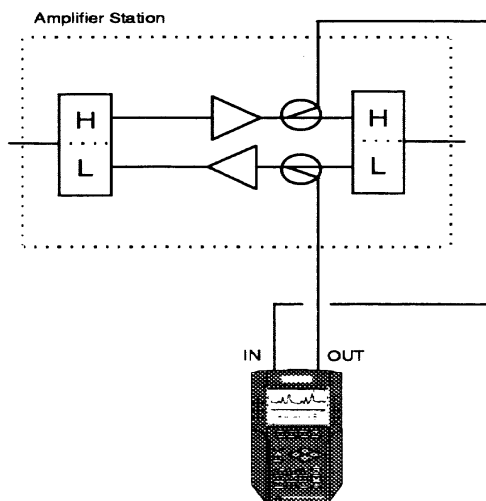

Fig. 4-6 SDA-5000 Connected in a Network with Two Test Points
- **Split band networks:** Most networks are split band network architectures, where one set of frequencies is used for forward signals (typically the higher frequencies above 50-80MHz), and another set is used for reverse path signals (typically the lower frequencies from 5MHz to below the start of forward path signals at 30-65MHz). These signals are combined on the same piece of coax, and special amplifiers increase selected bands in different directions. In a split band system, the most reliable and accurate method is to use two test points, one for forward path signals (to receive the sweep telemetry signal), and a second for reverse path signal injection. An example of this connection is shown in Fig. 4-6.